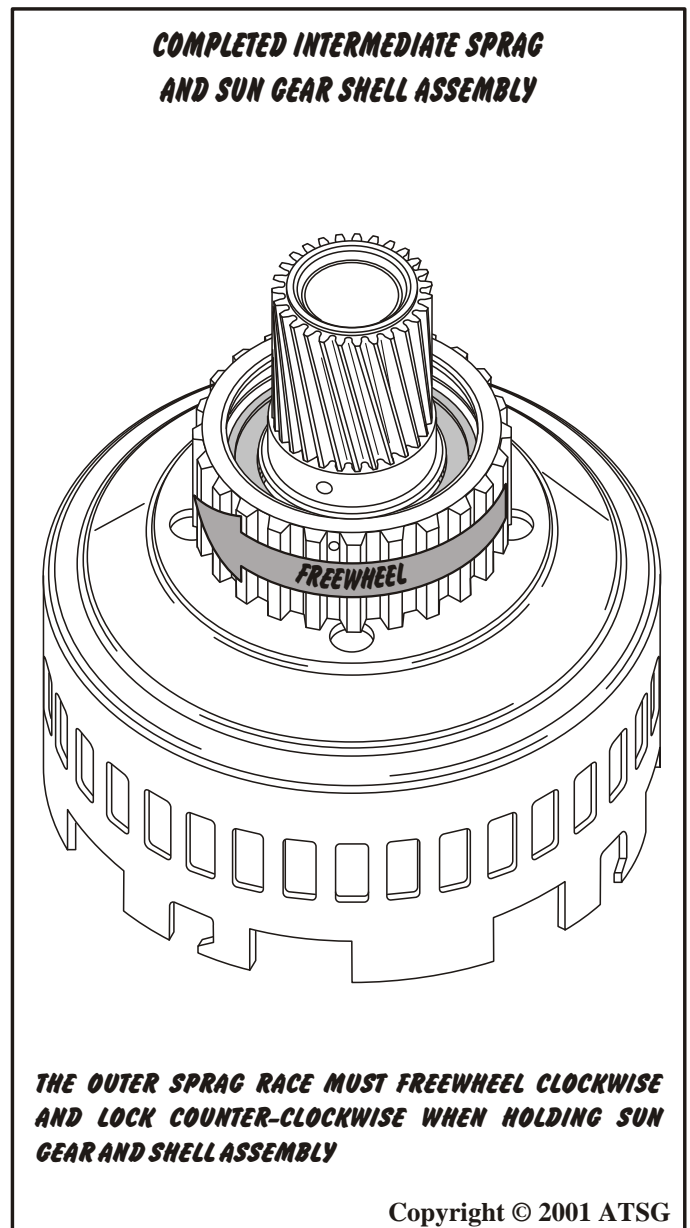

Figure 111
12. Intermediate sprag outer race **must** freewheel in clockwise direction and lock counter-clockwise as shown in Figure 111.